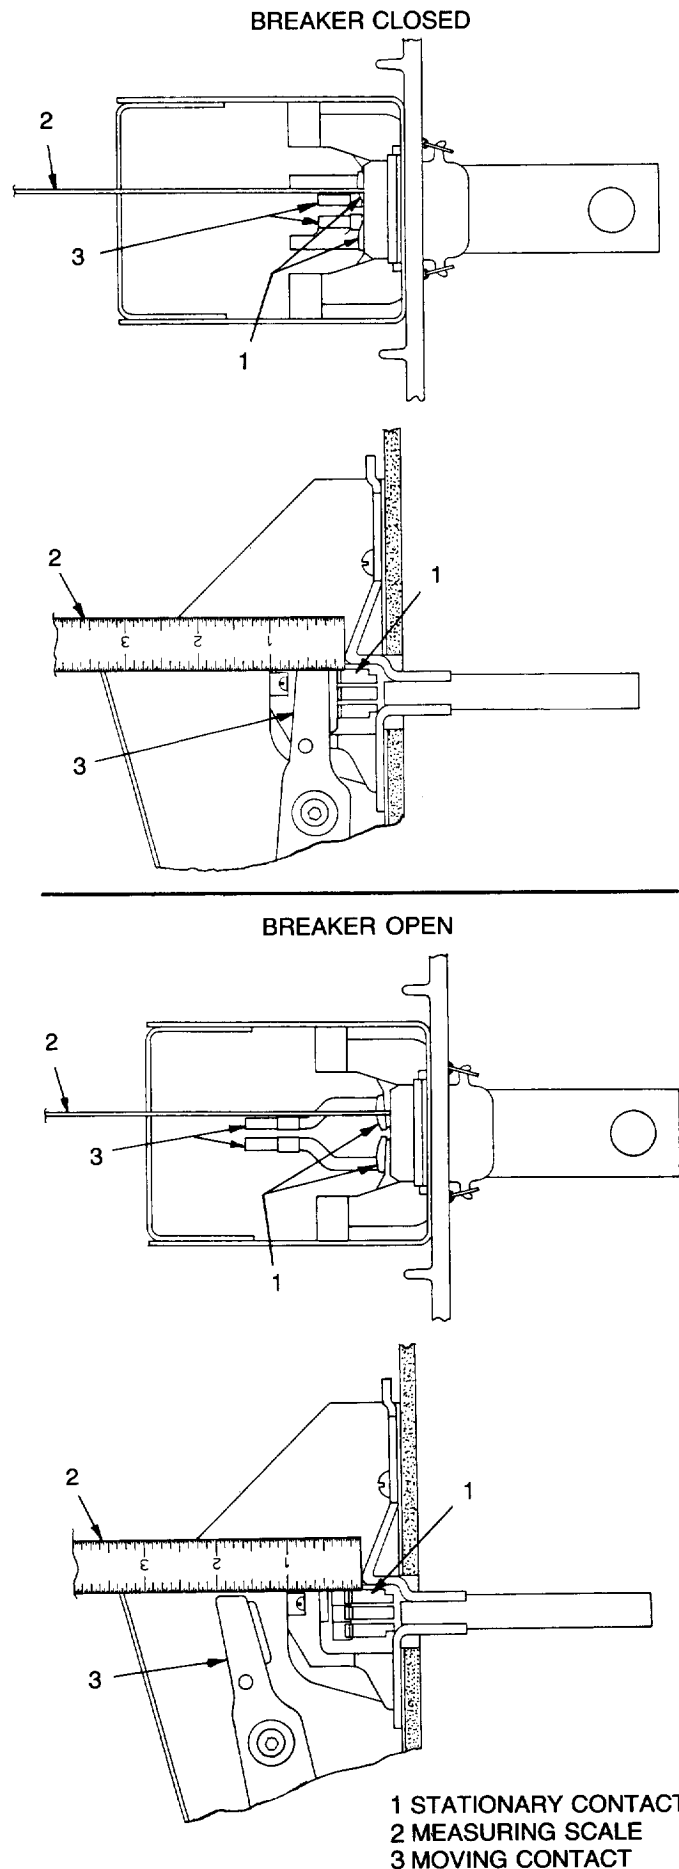

Figure 1.
4. Remove all three (3) arc quenchers by lifting the individual pieces up vertically.
5. Locate and identify the stationary upper terminal contact assembly. There are three pairs (six (6) total) of spring-loaded contacts on the outer end of the contact assembly. When contacted by the moving contact assembly on a closing operation, the contacts pivot inward. The distance they move inwardly is the "contact depression" that must be measured and set. To measure and set "contact depression" on the stationary contacts, proceed as follows:
- a. With the breaker in the **OPEN** position and the arc quenchers removed as described, locate a point of reference on each top contact of terminal assembly. A convenient point of reference is the steel arc runner located just above the stationary contacts and extending vertically for about two inches (2"). Place a scale, with divisions at least as small as  $\frac{1}{32}$ ", on top of the stationary contacts, butted against the steel runner and extending forward, adjacent and parallel to the plane of the moving contacts. Refer to Figure 1 when setting up to make this point of reference.
- b. Once the point of reference has been satisfactorily determined and the scale is in place, measure the distance from the end of the scale to the vertical surface of the stationary contact. Again, see Figure 1. This measurement should be about  $\frac{3}{16}$ " to  $\frac{5}{32}$ ". Record this initial measurement for each individual pole assembly. Remove the scale from the vicinity of the contacts.